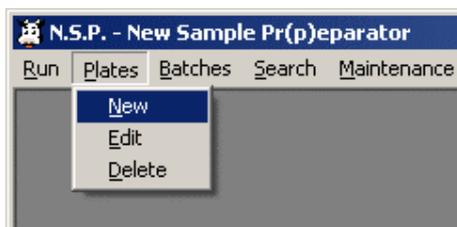

Fig. 5.2-1 : Edit sample plate
- (1) Select “Edit” from the “Plates” menu (Fig 5.2-1).